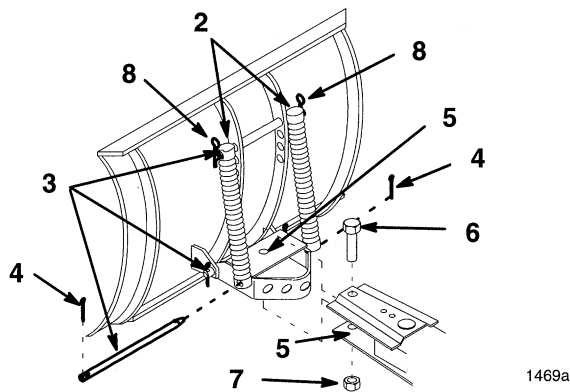

Figure 1
1. Attach channel assembly and blade trip springs to blade with rods and hairpin cotters and cotter pins (Fig. 1).
2. Apply liberal amount of general purpose grease to pivot area of frame and channel (Fig. 1) and attach with 3/4-16 x 3/4 inch bolt and nut.